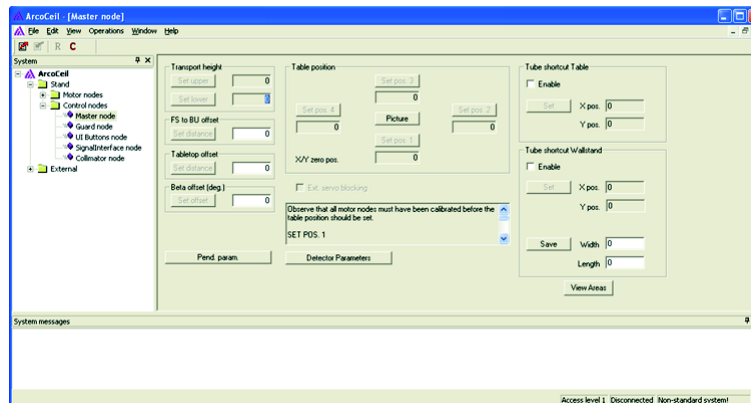

Fig. 4-138 Master node view
See also **Fig. 4-138**.
See Fig. 4-138:
Also see **Fig. 4-138**.
3. Move to the *Master view*. See Master node view in **Fig. 4-138**.
See Fig. 4-138.